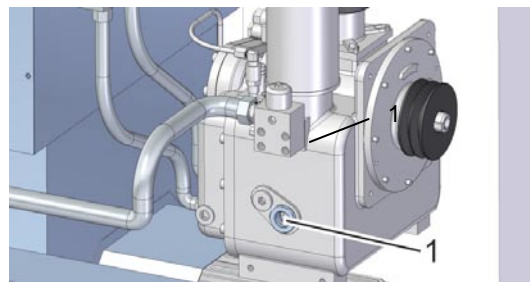

Fig. 27: Checking the oil level in the inspection glass
7. Check the oil level in the inspection glass (Fig. 27/1) and top up as described in  Chapter 7.4.3 'Checking the oil level/topping up the oil' on page 37 if necessary.